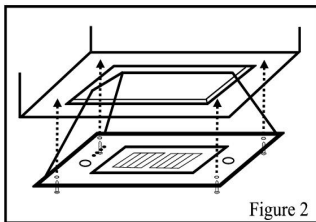

Figure 2
4. Install the insert unit into the hole and secure in place using four screws (not included) (see fig 2)